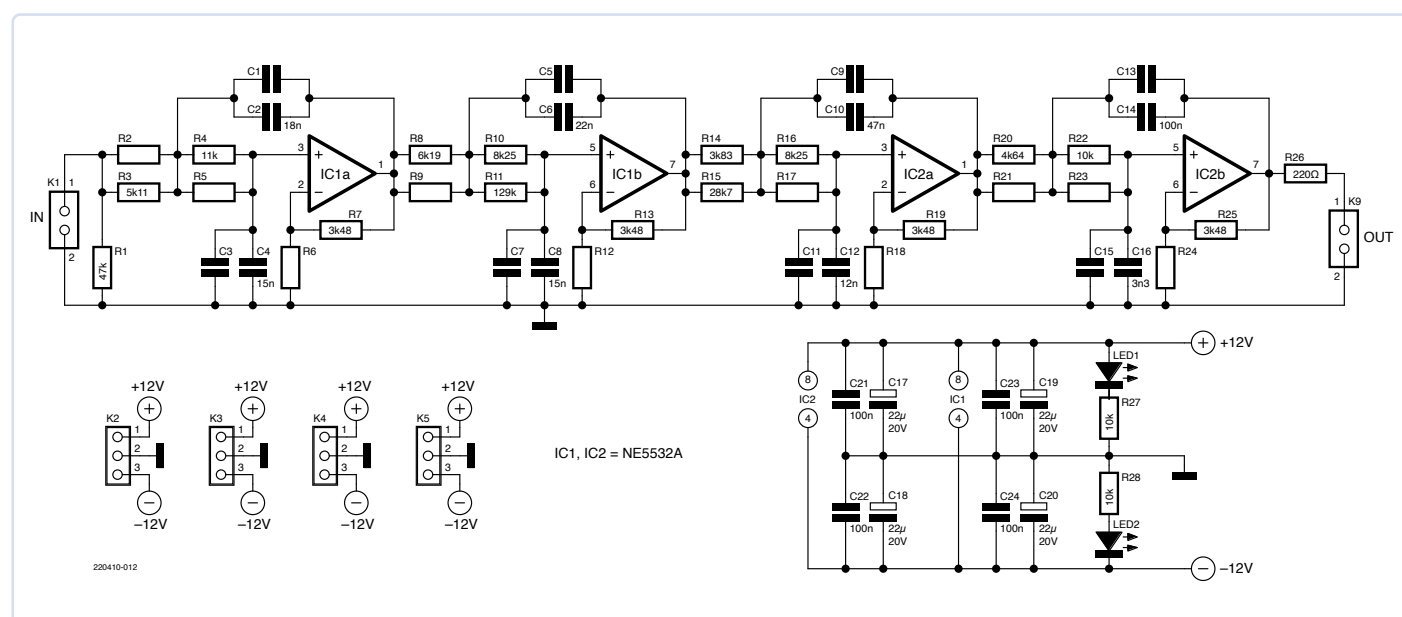

Figure 3: Circuit of the 8th-order Butterworth low-pass filter.
**Figure 3** shows the circuit of the 8th-order Butterworth low-pass filter. To avoid any significant level attenuation in the range of a few tens of Hz around 1 kHz, its cutoff frequency is fixed at 1.28 kHz with the specified component values. **Figure 4** shows the layout and **Figure 5** shows the prototype of the low-pass filter. For the resistors and capacitors determining the frequency, an additional component is connected in
parallel in each case (no value shown in Figure 3), which allows the calculated value to be hit as accurately as possible with the commercially available E series. It is particularly advisable to select the capacitors for accuracy before assembly to avoid subsequent replacement of components. The board also provides space for additional resistors (R6, R12, R18, and R24), which can be used for filter amplification, but these are not needed here, and are therefore omitted.